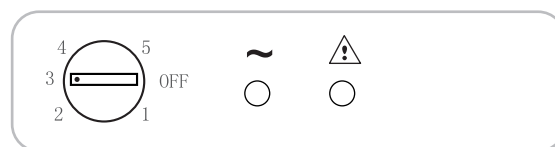

Fig. 1
- The temperature adjustment freezer compartments is effected by rotating the thermostat knob (Fig. 1). Select the desired position: